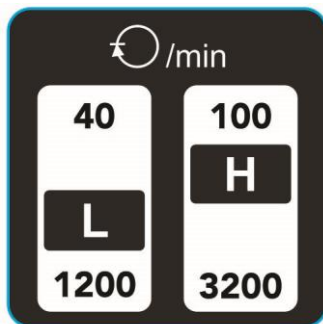

Fig 13
The speeds of the lathe are controlled by the variable speed select knob (D) as well as the position of the belt on the pulleys (Fig 13).